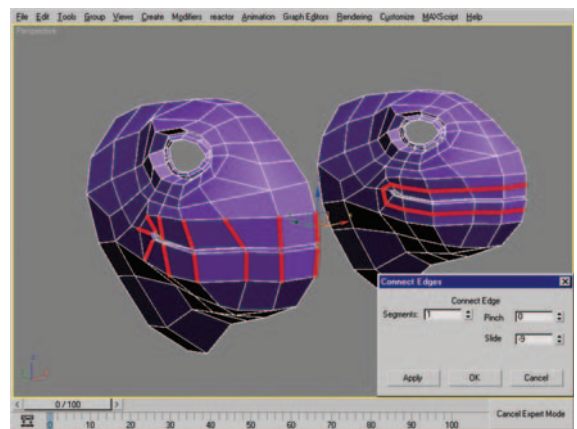

Figure 9.31 Edge-ring selection (left) and new row of edges created with Connect settings shown (right).
32. Make an edge-ring selection as seen in Figure 9.31 (left). Using the Connect settings dialog box create a new row of edges as seen in Figure 9.31 (right).